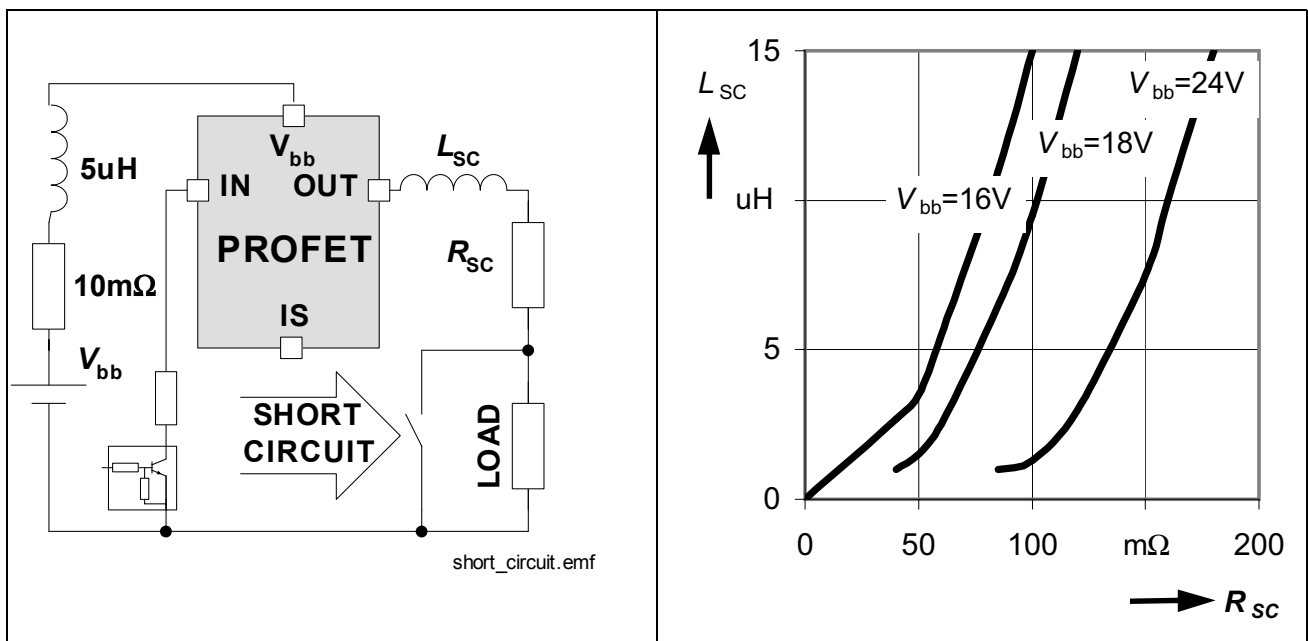

Figure 13 Short circuit
- ¹⁾ Short circuit is defined as a combination of remaining resistances and inductances. See Figure 13.
The capability to handle single short circuit events depends on the battery voltage as well as on the primary and secondary short impedance. **Figure 13** outlines allowable combinations for a single short circuit event of maximum, secondary inductance for given secondary resistance.